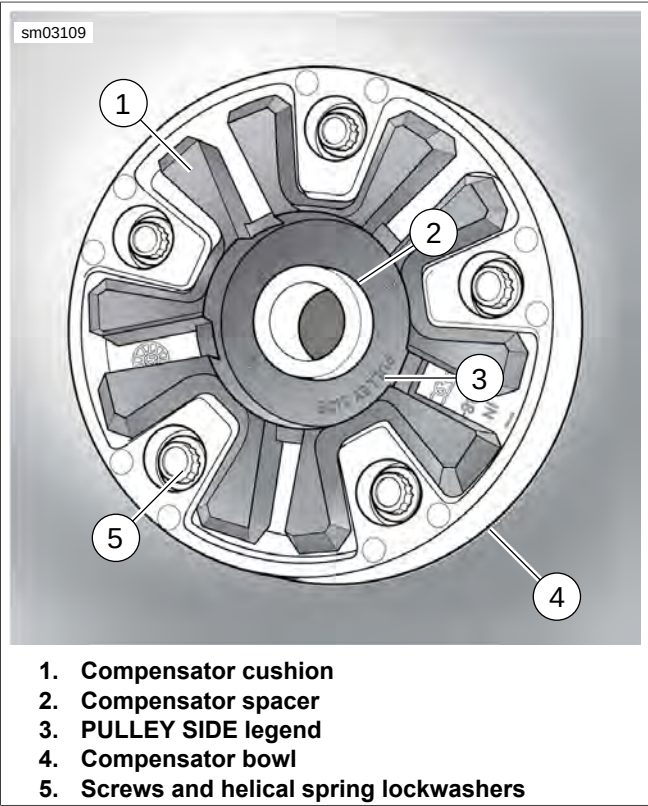

Figure 2-65. Compensator Cushion in Compensator Bowl (typical)
1. See Figure 2-65. Pull sprocket out of rubber compensator cushion (1) and compensator bowl (4) mounted to disc wheel.
2. Pull compensator spacer (2) and compensator cushion (1) from compensator bowl (4) mounted to disc wheel.
6. See Figure 2-65. Lubricate compensator cushion (1) with a detergent spray like glass cleaner and install compensator cushion. Be sure the PULLEY SIDE legend (3) is facing out.
7. Install the compensation spacer (2) with the grooved end in the cushion (1).